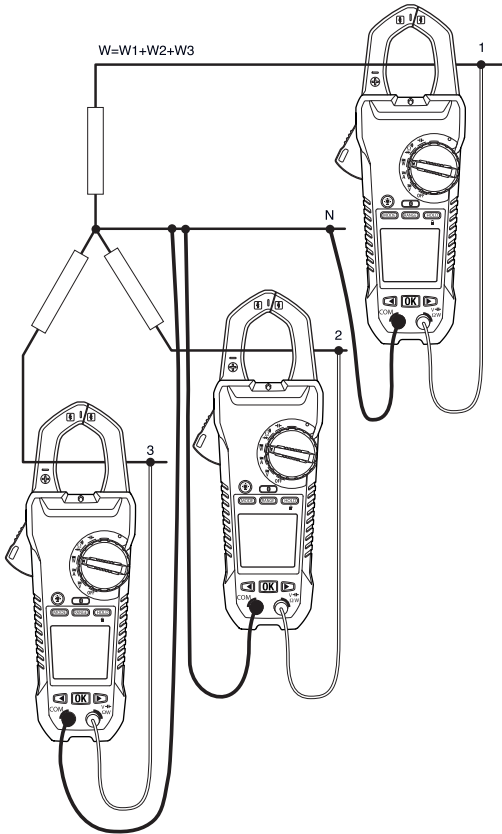

Figure 5.4 Three-phase four-wire measurements
The power of a three-phase four-wire configuration is measured in three steps, accordance with Figure 5.4. The total power is the sum of the three measurements: $W = W_1 + W_2 + W_3$
3. Take three measurements of the active power, in accordance with Figure 5.4.